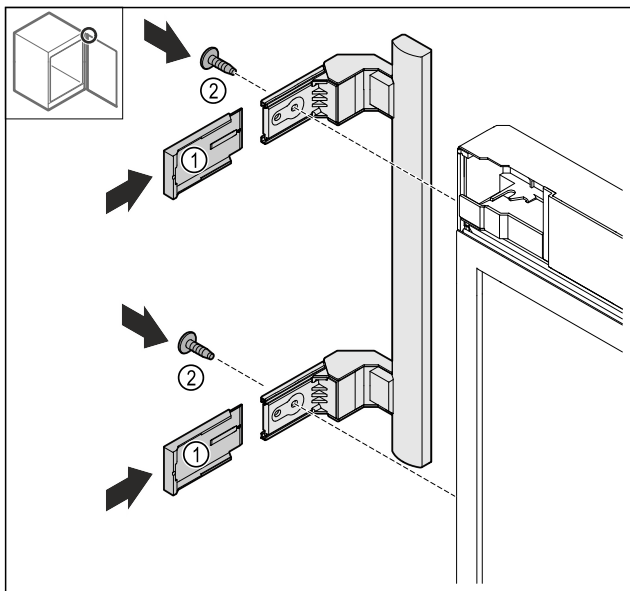

Fig. 25
- ▶ Push the covers Fig. 25 (1) on.